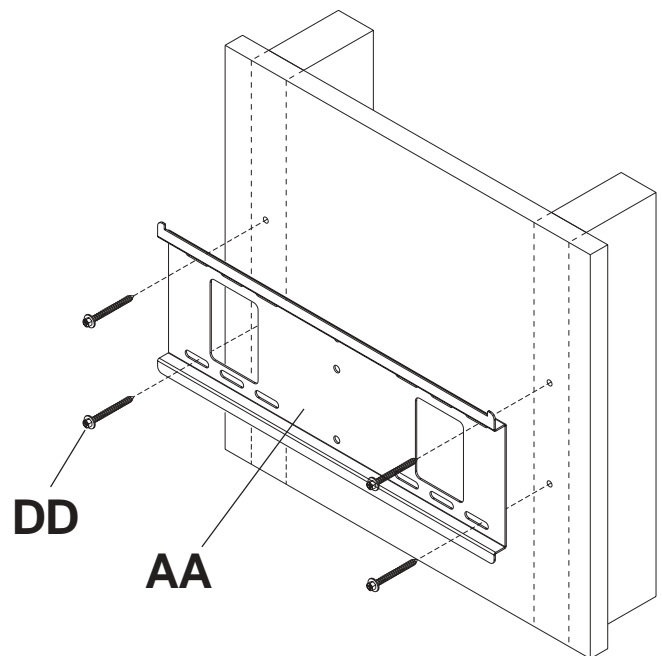

fig. 1.2
**1** Wall plate (**AA**) can be mounted to two studs that are 16" apart. Use a stud finder to locate the edges of the studs. Use of an edge-to-edge stud finder is highly recommended. Based on their edges, draw a vertical line down each stud's center. Place wall plate on wall as a template. The top mounting slots should be located above the desired screen center as indicated by dimension **X** in figure 1.1 and chart below. Level plate, and mark the center of the four mounting holes. Make sure that the mounting holes are on the stud centerlines. Drill four 5/32" (4 mm) dia. holes 2-1/2" (65 mm) deep. Make sure that the wall plate is level, secure it using four #14 x 2.5" wood screws (**DD**) as shown in figure 1.2.